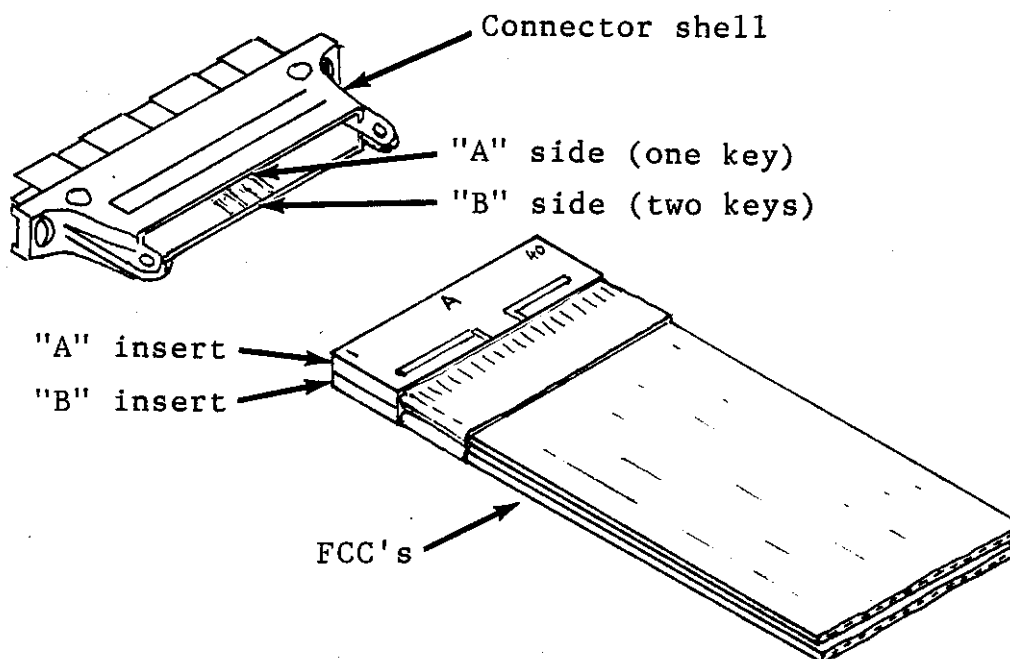

Figure 7-5. Terminated Insert Pair Ready for Insertion into Shell
3. Orient the A insert toward the A side of the shell and the B insert toward the B side of the shell (Figure 7-5).